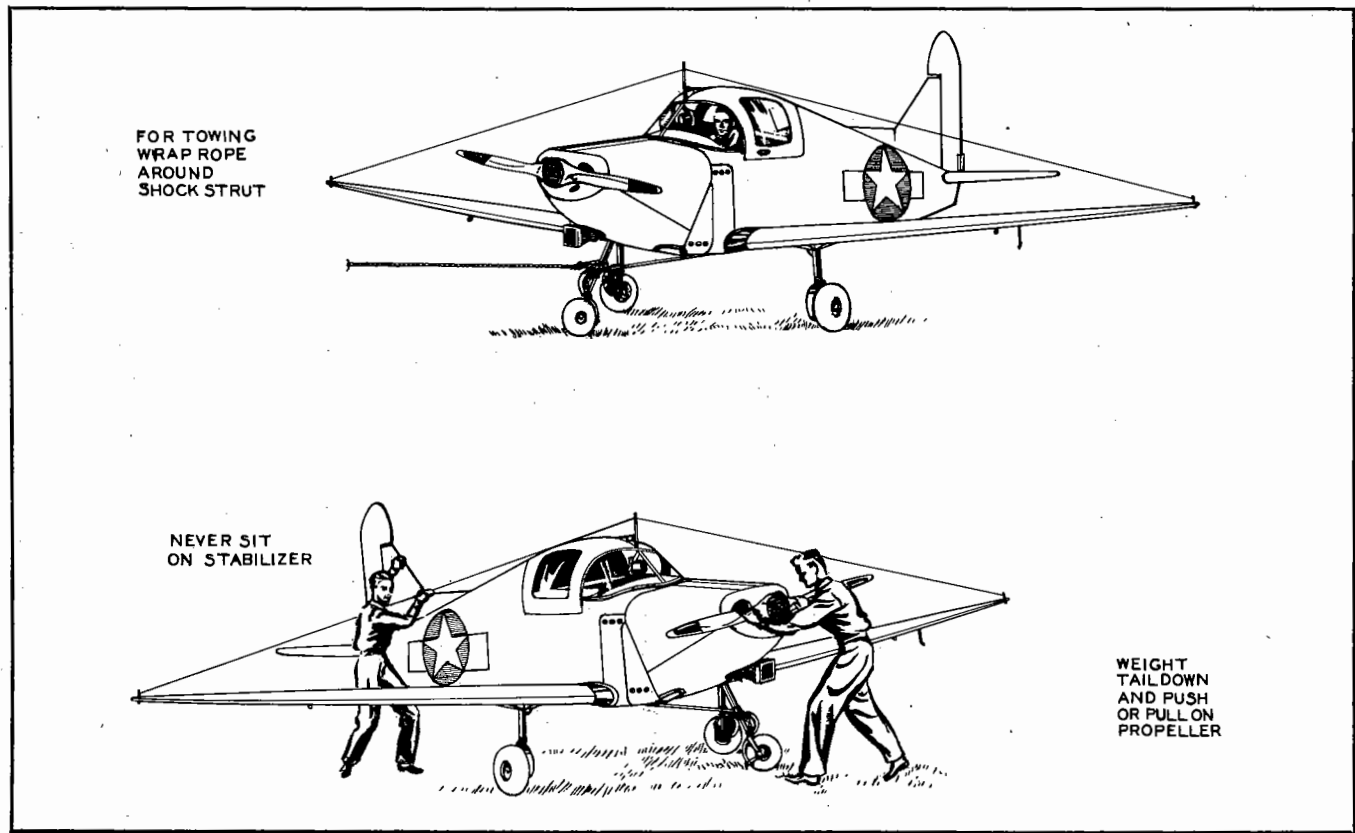

Figure 24—Towing Procedures
e. TOWING.—The airplane may be towed by tying a rope around the nose wheel shock strut above the drag link coupling. One man shall be stationed in the cockpit to operate the brakes and steer the plane. Use extreme care in towing this plane over rough ground. Keep the towline clear of propeller at all times. Do not attempt to move the airplane by pushing on the empennage. (See figure 24.) The airplane may be moved by having one man weight down the fin and another man push or pull the airplane by the propeller hub to the desired location. When moving the airplane do not grip propeller blades as they will be pulled out of track.